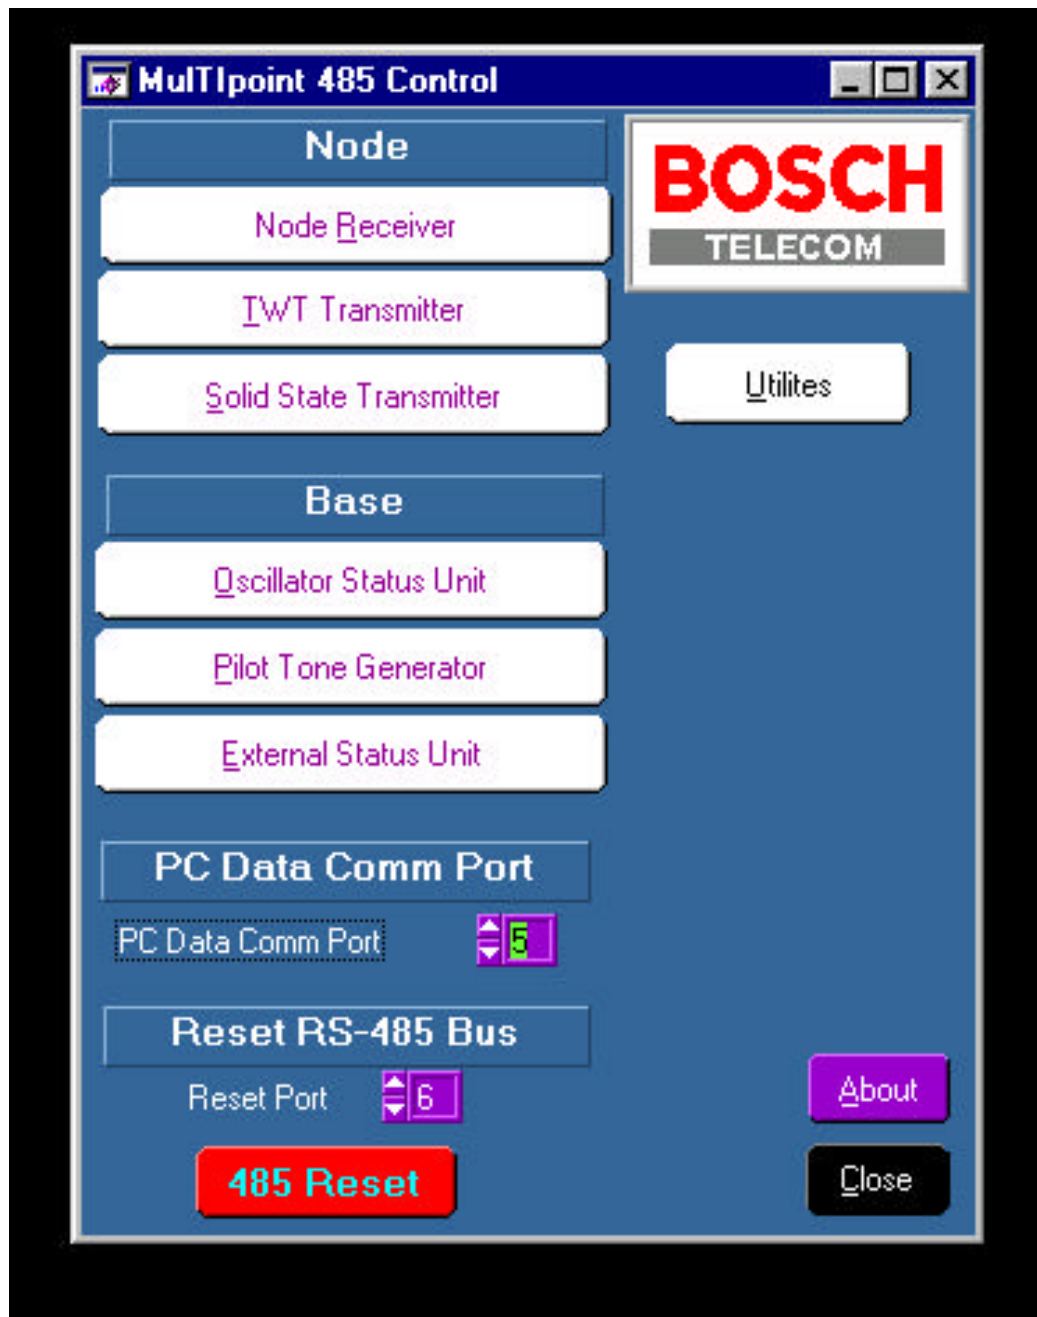

Figure 8-2 NA1 Main Window
- 4.2.1 On the main NA1 window (refer to Figure 8-2), single-click on the Solid State Transmitter "button".